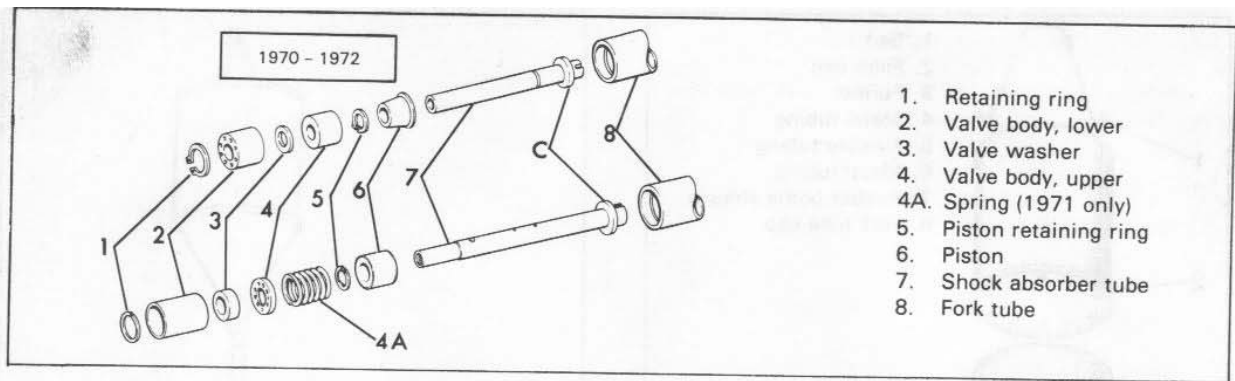
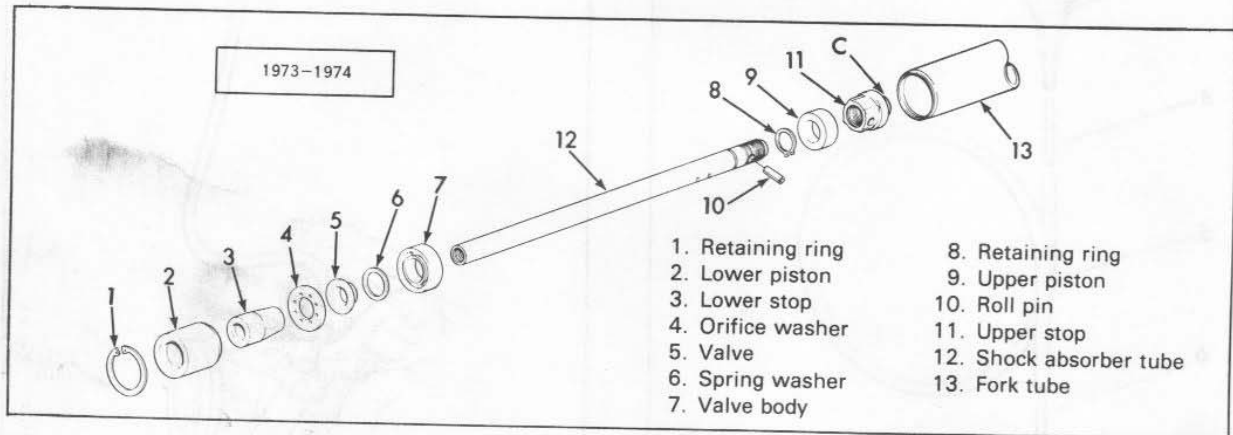

Figure 2-34. Front Fork Shock Absorber - Exploded View
Figure 2-35. Front Fork Shock Absorber - Exploded View
If snubbing action of the front fork remains unsatisfactory, bottoms on compression, stops suddenly on recoil and does not operate smoothly after eliminating malfunctions previously covered, disassemble fork as described in "DISASSEMBLING FRONT FORK SHOCK ABSORBER." Inspect shock absorber giving particular attention to the following parts (see Figure 2-34 or 2-35): Check fit of damper piston in fork tube and fit on shock absorber tube. Check seating washer on upper and lower valve body faces. Replace worn or damaged parts.
Remove front fender and headlamp housing. Remove fork tube cap (1). Loosen fork tube pinch bolt (4). (On 1970 models, stretch rubber fork boot (5) from upper retainer (15) lip.) Remove fork side (6) complete. On 1972 and earlier models, use Wrench, Part No. 94694-52, and disassemble retainer (7) from top of fork tube (8). Remove spring (9) and drain hydraulic fork oil from fork tube. Turn assembly upside down and remove bolt and washer (12). It may be necessary to insert Tool, Part No. 95991-69 or a long screwdriver into 3/32 wide x 1/2 long slot C (Figure 2-34) in upper end of shock absorber tube to keep it from turning while removing bolt (12). On 1973-1974 models, use Socket, Part No. 94556-73 with extension on upper end of shock absorber tube C (Figure 2-35) to keep it from turning. Free slider (10) from tube (8).
### DISASSEMBLING FRONT FORK SHOCK ABSORBER 1970 (Figure 2-34)
1971-1972 (Figure 2-34)
1973-1974 (Figure 2-35)